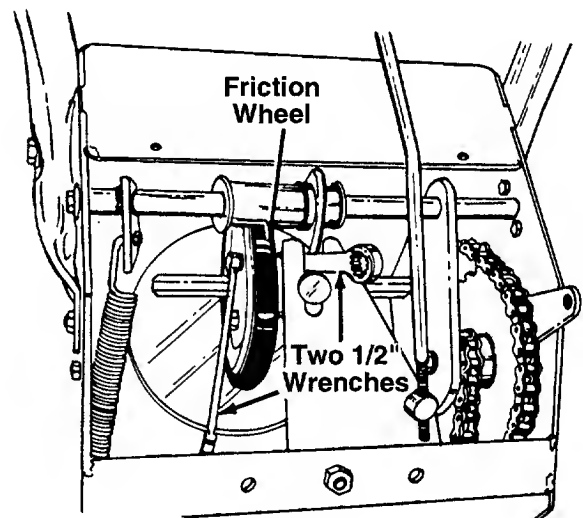

FIGURE 36.
4. Using two 1/2" wrenches, loosen and then remove the three hex nuts and lock washers holding the friction wheel to the friction wheel adapter. See figure 36.